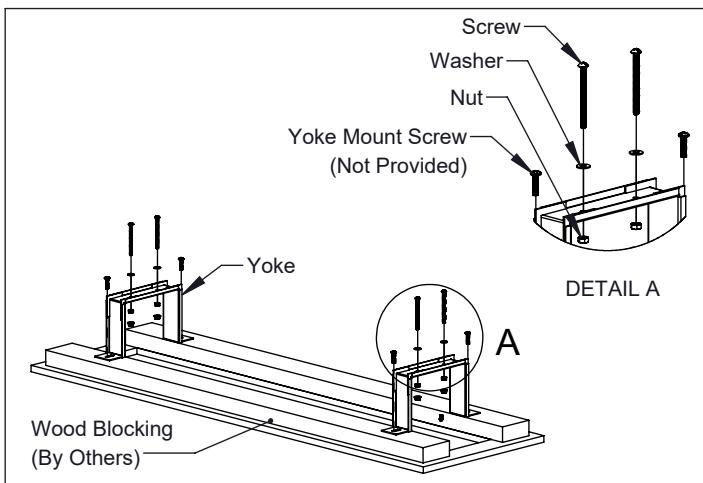

Figure 3
3. Adjust mounting yokes in ceiling with wood blocking and install hardware . (Fig. 3) [See dimensional data for yoke mounting location]